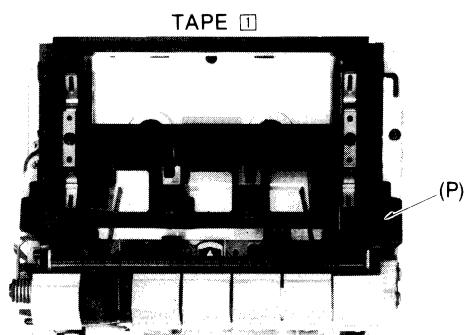
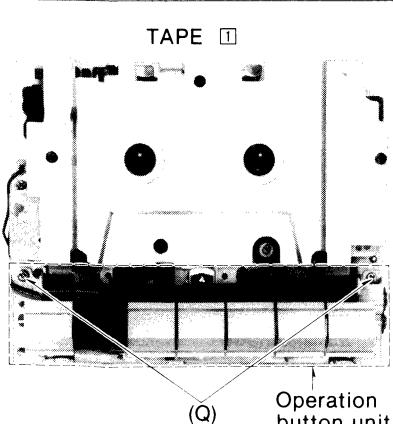

Fig. 6
Fig. 7
E Head azimuth adjustment [TAPE 1, TAPE 2] Condition: • Playback mode Equipment: • VTVM • Oscilloscope • Test tape (azimuth) ... QZZCFM	<p>L-ch/R-ch output balance adjustment</p> <ol style="list-style-type: none"> 1. Make connections as shown in fig. 3. 2. Playback the 8kHz signal from the test tape (QZZCFM). Adjust screw (B) in fig. 4 for maximum output L-ch and R-ch levels. When the output levels of L-ch and R-ch are not at maximum at the same time, readjust as follows. 3. Turn the screw shown in fig. 4 to find angles A and C (points where peak output levels for left and right channels are obtained). Then, locate the angle B between angles A and C, i.e., a point where L-ch and R-ch output levels come together at maximum. (Refer to figs. 4 and 5.) <p>L-ch/R-ch phase adjustment</p> <ol style="list-style-type: none"> 4. Make connections as shown in fig. 6. 5. Playback the 8kHz signal from the test tape (QZZCFM). Adjust screw (B) shown in fig. 4 so that pointers of the two VTVMs swing to maximum and a waveform as illustrated in fig. 7 is obtained on the oscilloscope.